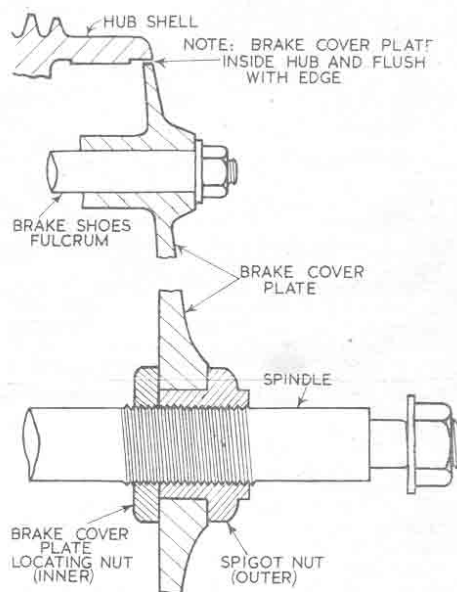

Fig. 3. Sketch showing positioning of front brake cover plate
**Note.** It is most important that front brake-cover plate outer face is flush with hub-shell edge. To adjust plate, reposition inner nut (flat face against plate) and finally tighten outside spigot-nut (see fig. 3).